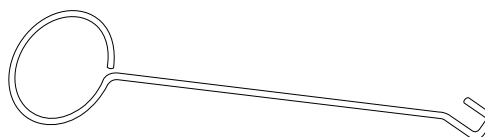

Figure 4-3 SIMM Extraction Tool
- 6. Insert the hooked end of the extraction tool (see Figure 4-3) into the left or right SIMM extraction hole.**